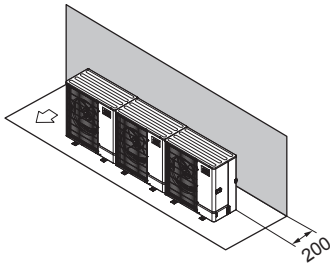

Fig. 1-28
- ① Obstacles at rear only (Fig. 1-28)